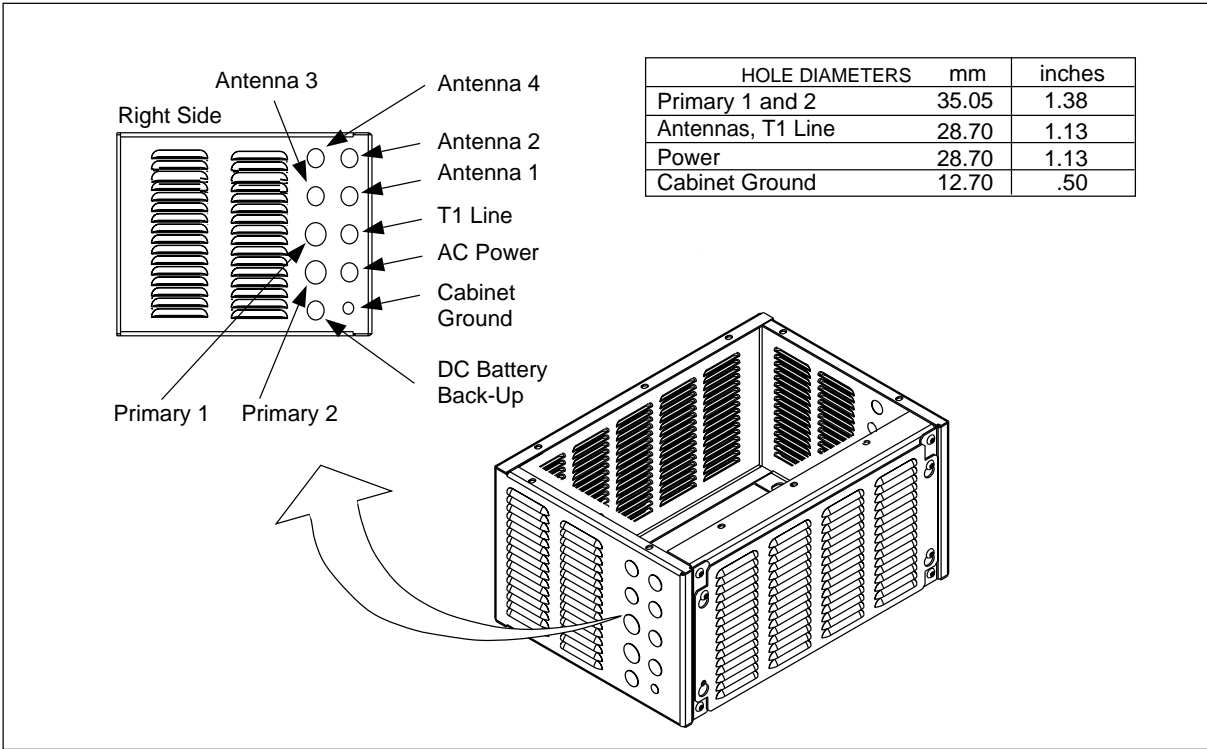

Figure 4-13. Pedestal Mount
1. Using a tamper resistant wrench, remove the front panel from the pedestal base so cables or conduit can be routed to the cabinet. See Figure 4-13 on page 4-30
2. Route the antenna and T1(E1) conduit into the base of the cabinet. See Figure 4-13 on page 4-30.